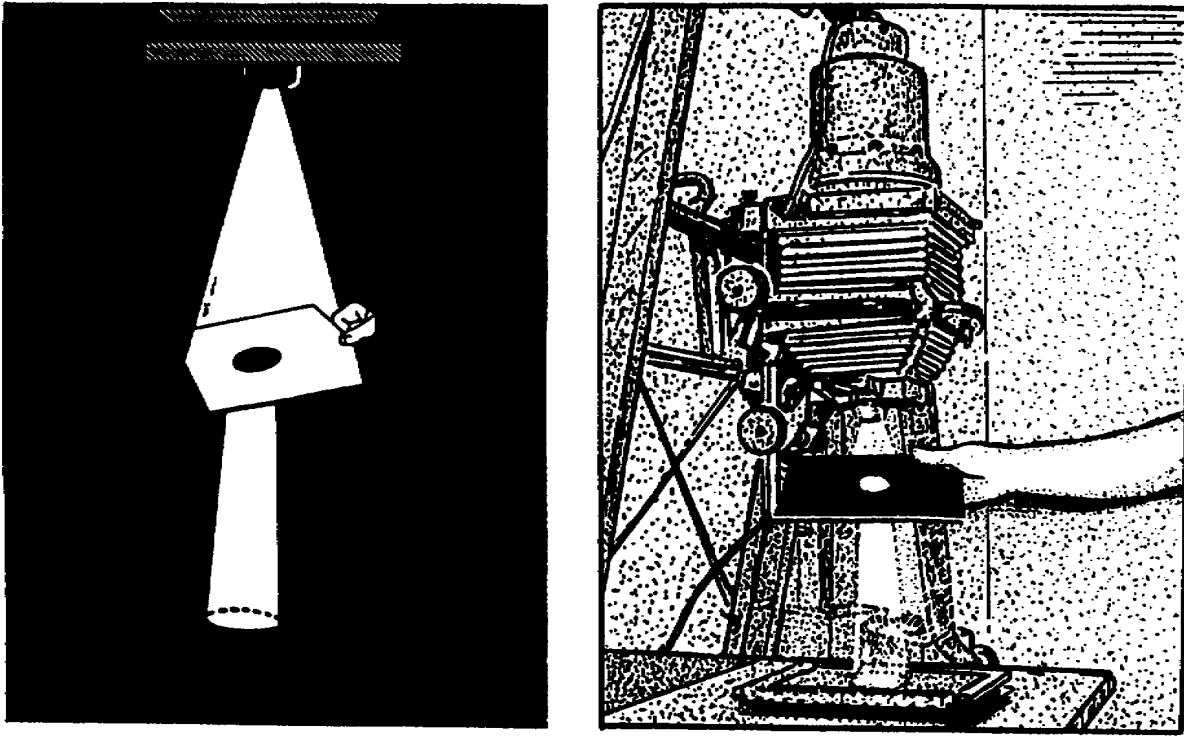

Figure 2-11. Using a burning-in device
d. Another form of print control, burning-in, is used to make an area darker. This is done by using a piece of cardboard or paper with a hole cut in the center that is smaller, but approximately the same shape as the area to be burned in. The device used for this procedure need not be complex. Figure 2-11 shows a sample device in use. After the normal overall printing exposure has been made, the burning in device is moved into position between the lens and the easel. The card holds back all the light except the light passing through the hole to the area that